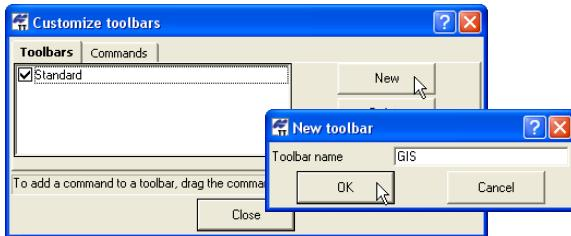

Figure 1-19. Add New Toolbar
2. Click **New** to add a new toolbar to the main window. Name the toolbar and click **OK** (Figure 1-19 on page 1-22).